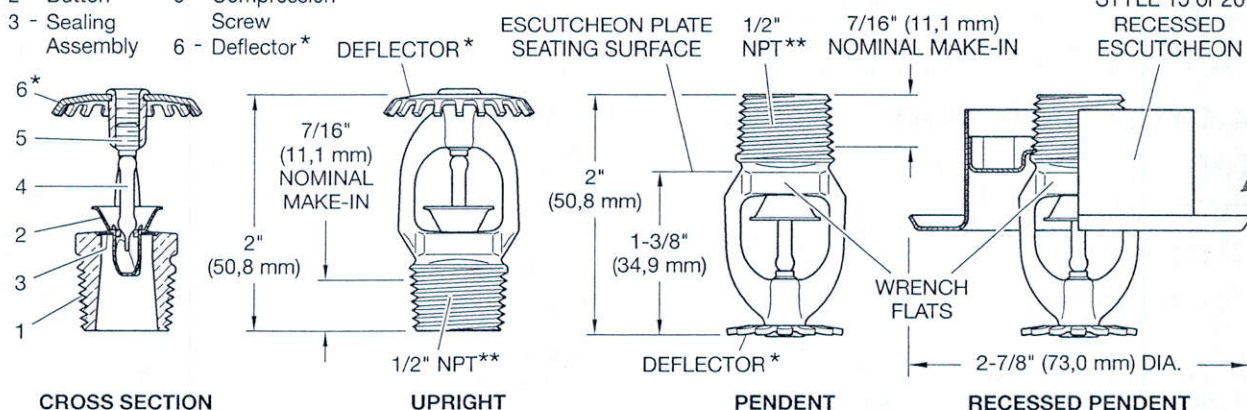
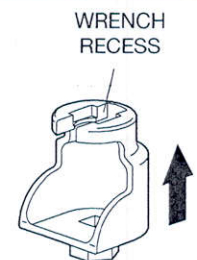

FIGURE 1
FIGURE 3
Step 3. Tighten the sprinkler into the sprinkler fitting using only the W-Type 6 Sprinkler Wrench (Figure 2). With reference to Figure 1, apply the W-Type 6 Sprinkler Wrench to the wrench flats. Torque sprinklers 7 to 14 ft.-lbs. (9,5 to 19,0 Nm).
Step B. Tighten the sprinkler into the sprinkler fitting using only the W-Type 7 Recessed Sprinkler Wrench (Figure 3). With reference to Figure 1, apply the W-Type 7 Recessed Sprinkler Wrench to the sprinkler wrench flats. Torque sprinklers 7 to 14 ft.-lbs. (9,5 to 19,0 Nm).